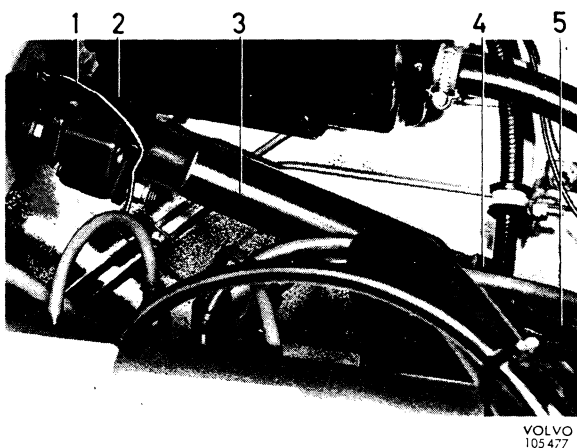

Fig. 6-35. Coupling parts
2. Unscrew the nut (4, Fig. 6-35) from the sleeve (5). Use a hook spanner in the nut hole.